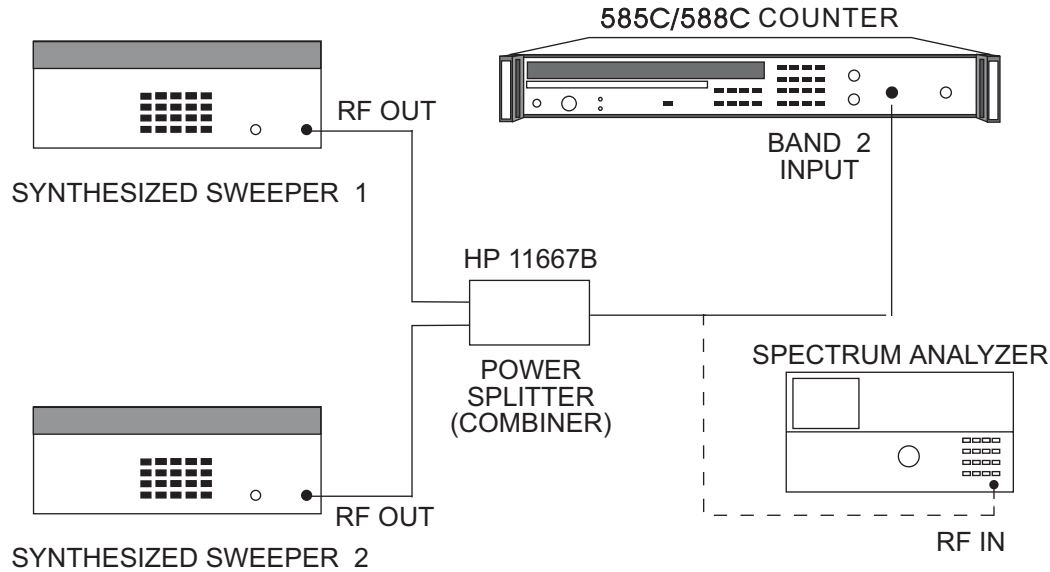

Figure 6-7. Band 2 Amplitude Discrimination Test Setup
1. Connect the equipment as shown in Figure 6-7.